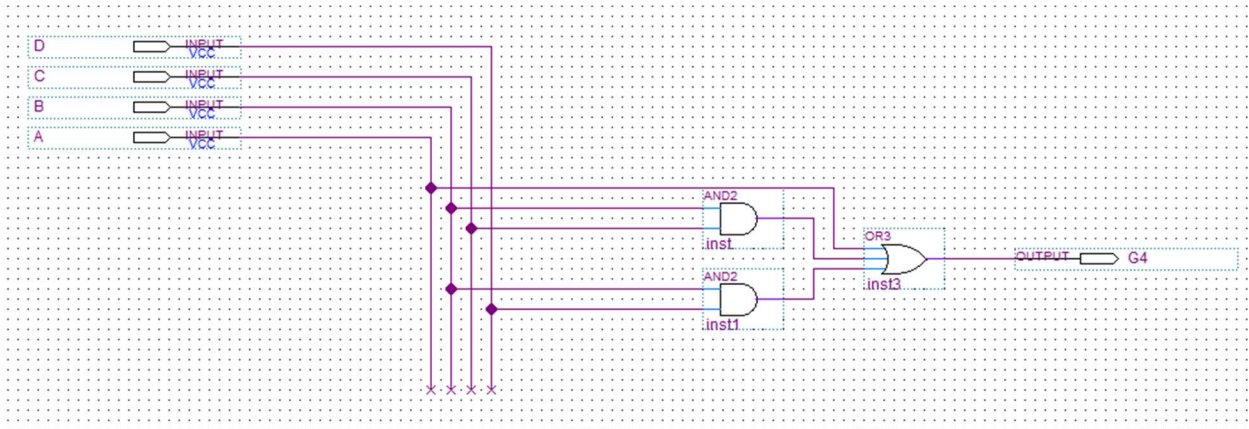

Figure 1: G4 detector
1. **Draw** and **simulate** the circuit of Figure 1. It detects 4-bit numbers greater than 4.
Now move to the next page to find Figure 1 and begin your work.